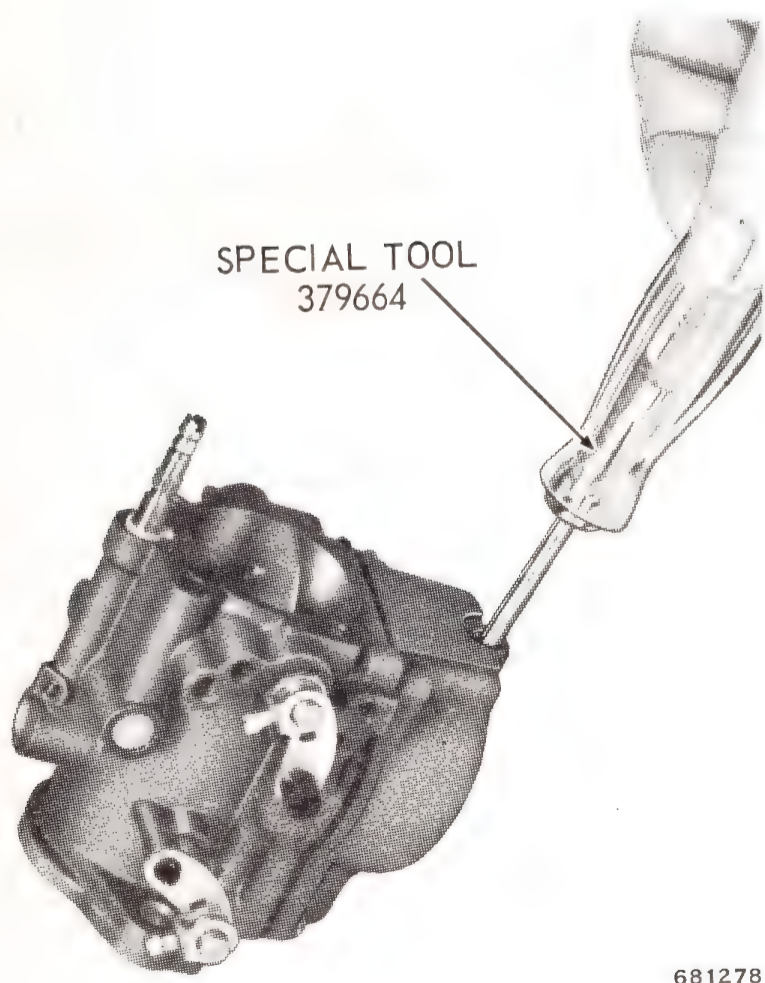

Figure 3-9. Removing Fixed Jet
- b. Remove fixed high-speed jet. To prevent damage to threads in float chamber assembly, use fixed jet screwdriver (Special Tool #379664). See Figure 3-9.